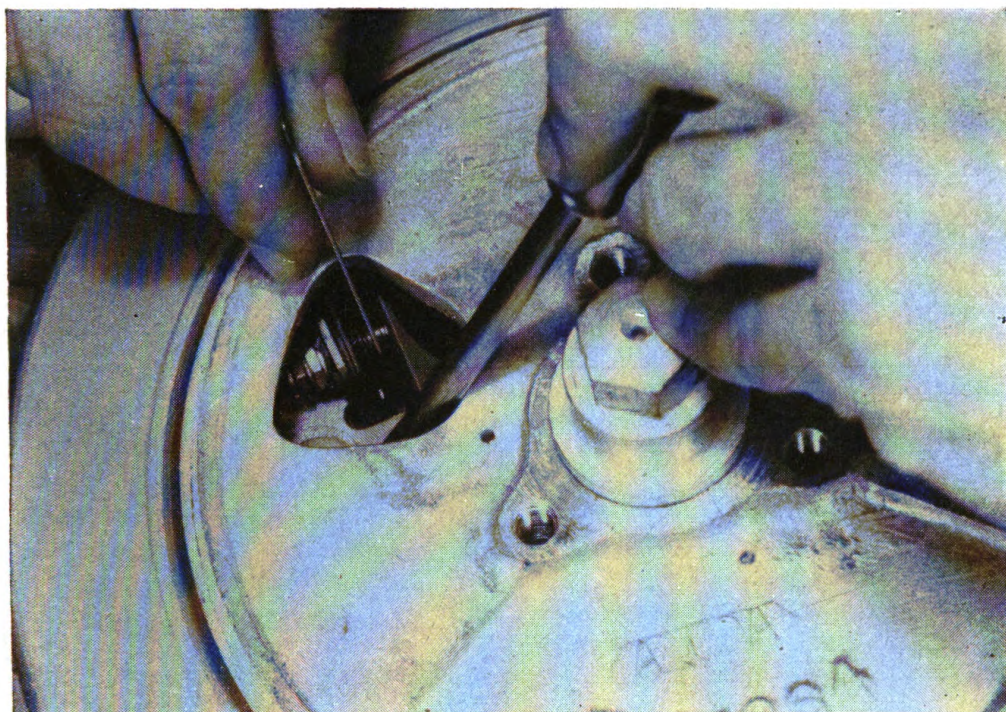

Figure 94. Checking breaker points through inspection port in flywheel.
b. LUBRICATION OF GEAR CASE. (1) Since gear case is submerged when in use it is important that gears and bearings be lubricated properly at all times. Gear case is lubricated at intervals of 10 to 12 hours of operation.
(2) Inspection of gear case is necessary at regular intervals to drain accumulation of water which may be present. Remove vent and grease plugs. Water in the gear case is injurious if allowed to remain, particularly if the motor is placed in storage, and causes gears, bearings, propeller and pinion shafts to rust and become pitted.
(3) To refill with gear lubricant, place motor in an upright position. Remove lower grease plug and upper vent plug. Fill with Evinrude Super Grease UW or Sea Horse Lubricant, using a grease gun or tube inserted through lower opening. Insert lubricant until it flows from vent opening. Replace plugs, making certain they are secure.
(4) Prior to storage remove all drain, vent, and grease plugs to allow water present in gear case and water channels to drain off. This prevents freezing and bursting of gear case, drive-shaft housing, water tubes, and cylinder blocks if motor is exposed to freezing temperatures, and eliminates danger of rusting.
c. CLEAN AND ADJUST BREAKER POINTS. (See fig. 8.) (1) Remove flywheel cover plate held in position by three screws. A port or opening in flywheel makes points accessible for inspection, cleaning, and adjusting. (See fig. 94.) Spread breaker points with blunt instrument to observe their condition. If pitted or corroded, place a narrow strip of No. 00 sandpaper between points, folded so both points can be dressed down simultaneously by drawing sandpaper back and forth between them. The flex-stone listed in first echelon spare parts also may be used. Do not use emery cloth.
(2) Upon completing this operation, check the gap between points by turning flywheel slowly until points are wide apart. Insert feeler gauge between points as shown in figure 94. Correct setting is .020 inch. Note breaker arm, breaker plate, breaker-point adjusting screw, and breaker-point cam in flywheel in figure 8. If necessary to reset breaker points, loosen breaker-point adjusting screw. Note arm is free to move slightly. Since breaker points actually are operated by cam in flywheel,